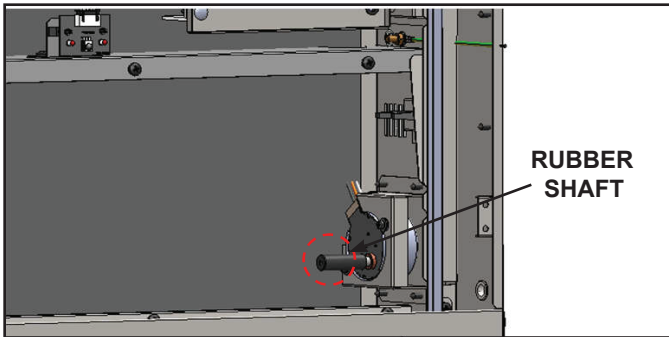

Figure 18. Rubber Shaft Removal
15. Remove the rubber shaft on the motor. See Figure 18.